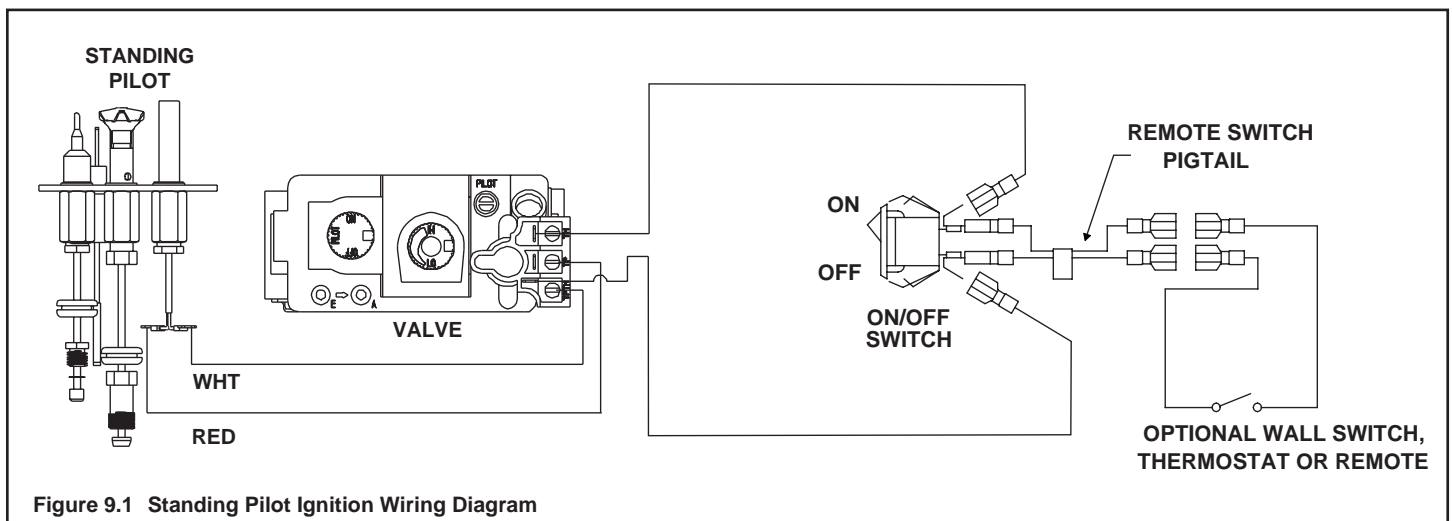

Figure 9.1 Standing Pilot Ignition Wiring Diagram
- If desired an additional wall switch or thermostat may be added to system as shown in Figure 9.1. Follow directions included with the optional wall switch.